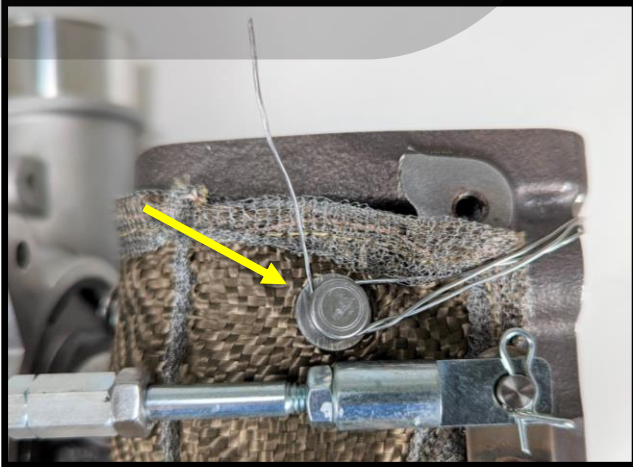

Figure 2g
- g) Wrap the wire back around the second button rivet as seen below in **Figure 2g**, ensuring that tension is kept on the wire.